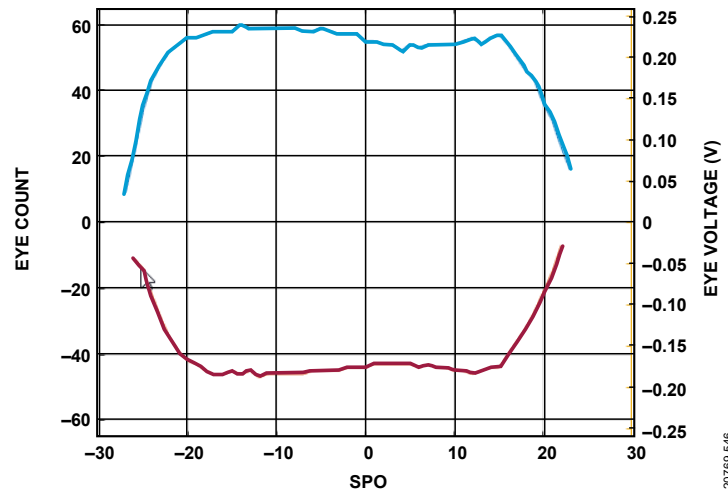

Figure 151. Example Eye Diagram Created from Half Rate Eye Scan Data
After running the horizontal and vertical eye scans, use the data recorded in Step 5 in the vertical eye scan procedure to construct the eye upper outline (see the blue curve in Figure 151). Use the data recorded in step 11 in the same procedure to construct the eye lower outline (see the orange curve in Figure 151). In half rate mode, each SPO count is  $1/64$  of the lane rate unit interval (UI). To convert the SPO counts, multiply the SPO counts by  $1/64^{\text{th}}$  of the UI. To convert the comparator counts to volts, multiply the counts by  $+4$  mV or  $-4$  mV depending on the comparator voltage sign used.